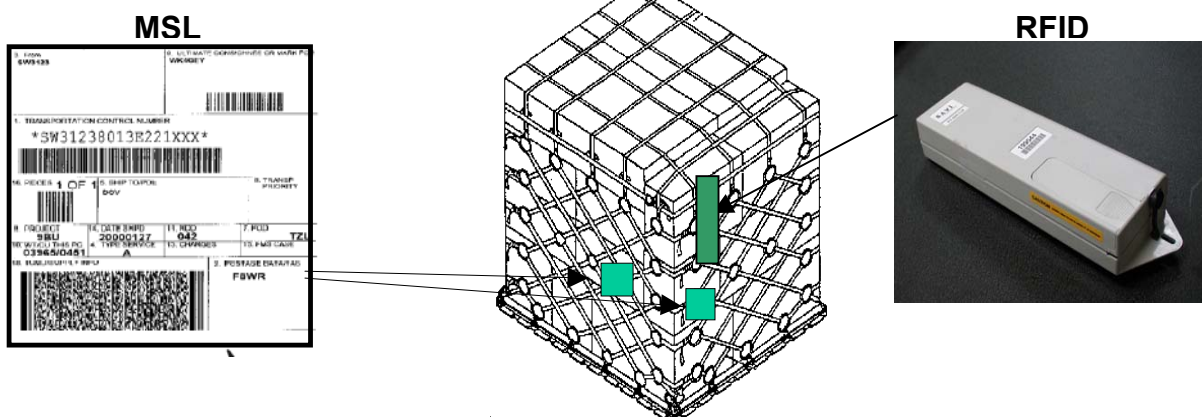

Figure 4-3 Pallet Marking Standard
- Radio Frequency Tags – Pallets will be marked with one RF tag. Attach the tag to the side of the pallet using nylon zip ties (see Figure 4-3) and outside of any protective wrapping.
- Military Shipping Labels – Pallets will be marked with two MSLs. Attach one label on the side of the pallet and one on the adjacent side (see Figure 4-3). Ensure that the MSLs are on the outside of any protective wrapping.